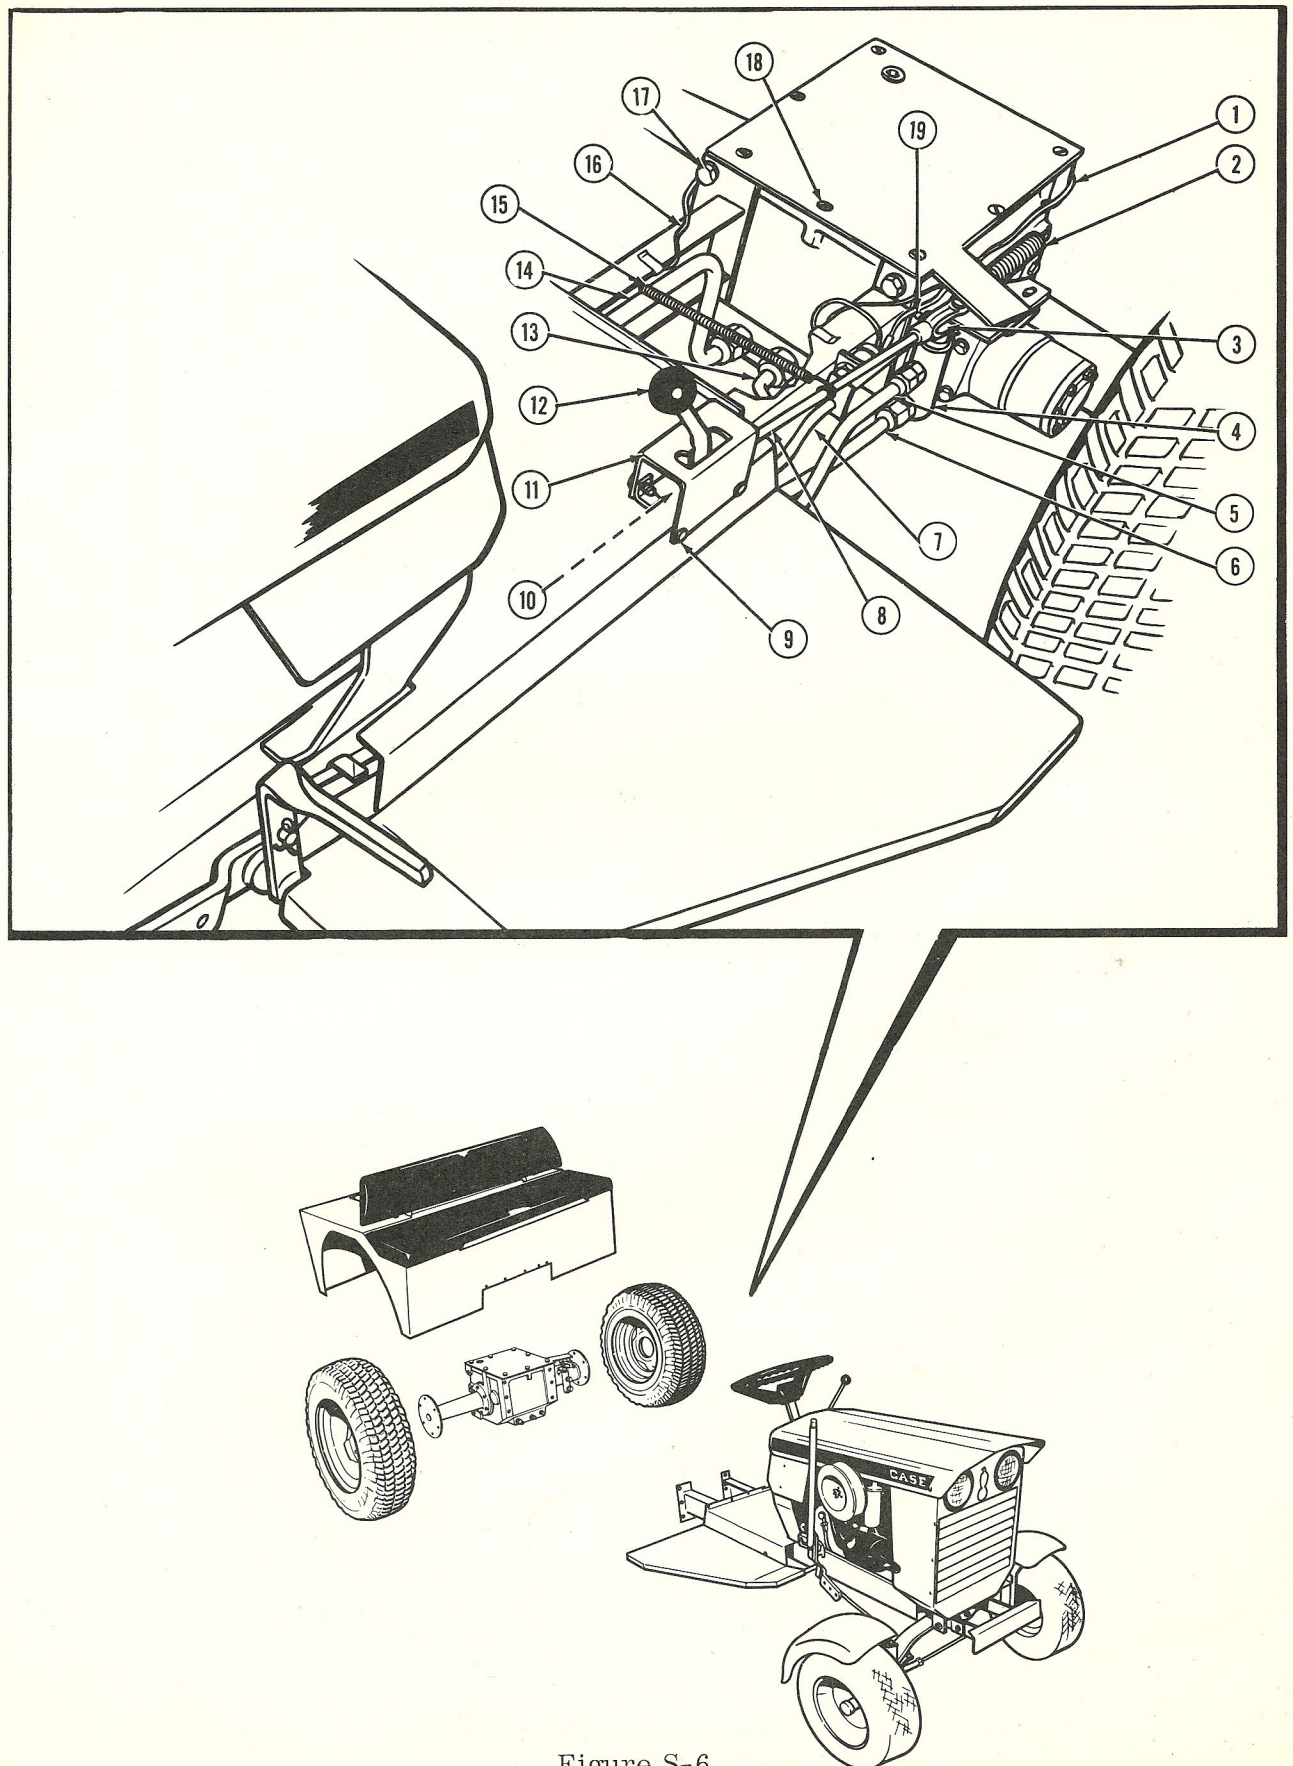

Figure S-6
**(Refer to Figure S-6 and S-7)**